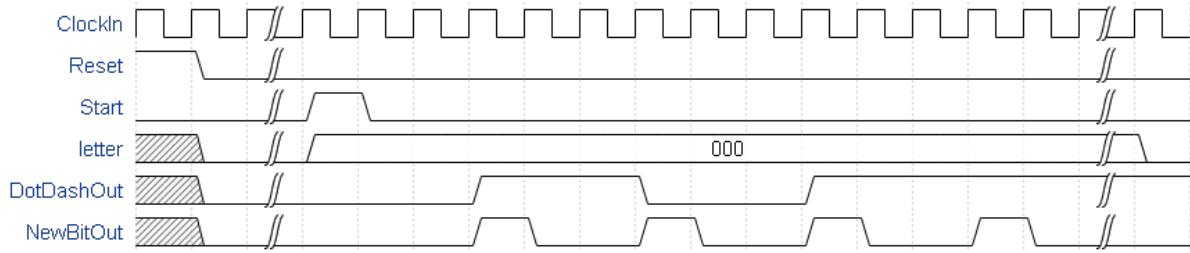

Figure 3: Timing diagram for Part 3
Figure 3 shows a timing diagram of how your circuit should operate, for the letter *A*. The letter is selected by the `Letter` input using 000 for *A*, 001 for *B*, etc. The Morse code for the letter is output when the `Start` signal is asserted, for 1 clock period. Figure 3 shows the first 4 bits of *A* being flashed, for a very low clock frequency. Using the clock in the marker or the FPGA will cause the `DotDashOut` signal to stay 0 or 1 for many more clock cycles.
1. There maybe many cycles between **Reset** being de-asserted and **Start** being asserted. This is shown with the two wavy lines in Figure 3.